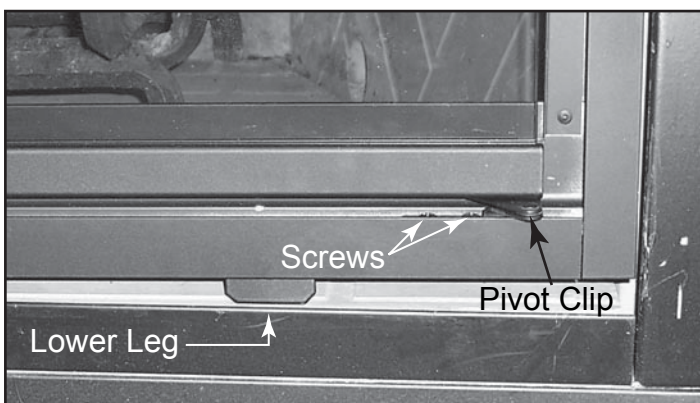

Figure 3
4. Pick up the complete door assembly and insert each leg (located on the bottom of the frame) into the gap at the front of the hearth stone. See Figure 3.
9. Doors may be adjusted at the top or bottom by loosening the two screws on the pivot clip (top - See Figure 3 - and bottom) and sliding the doors in or out.